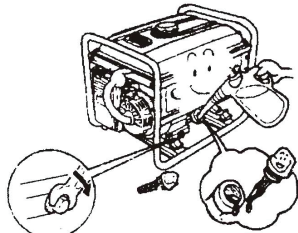

Figure 38
2.3 Put the drain plug back(Figure 38)